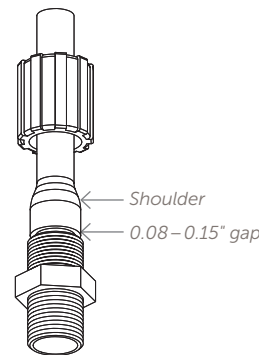

Figure 3.
- Push the flared tubing end onto the Flaretek fitting body until the end of the fitting body contacts the flare shoulder of the tube (Figure 3). The maximum gap between the tube end and fitting shoulder should be 0.080–0.150."